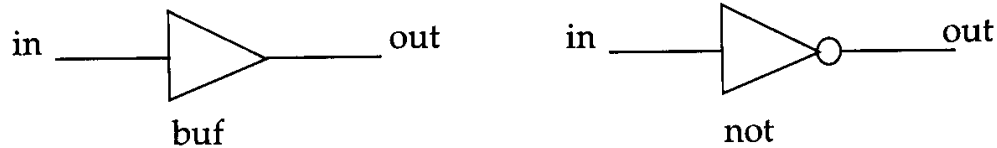

Fig.3.2: Buf and Not Gates
- The logic symbols for these gates are shown in fig.3.2, have one input and one output.
- Gate instantiation statement of Buf/Not gates shown in fig.3.2 can be written as